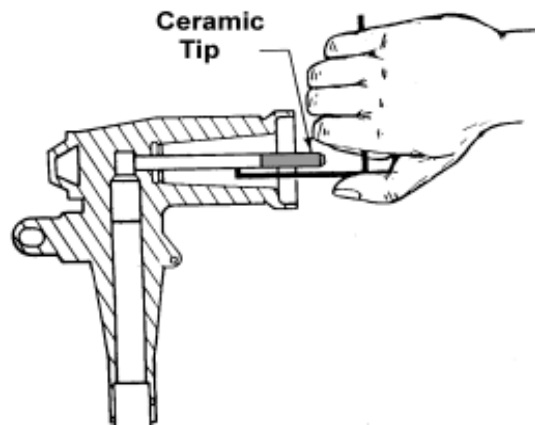

Figure 8, Tightening Threaded Electrode
- Insert the short end of the wrench into the hole of the probe, as shown in figure 8, and tighten the probe until the wrench bends substantially and is permanently deformed. (A new wrench comes with each loadbreak elbow.)